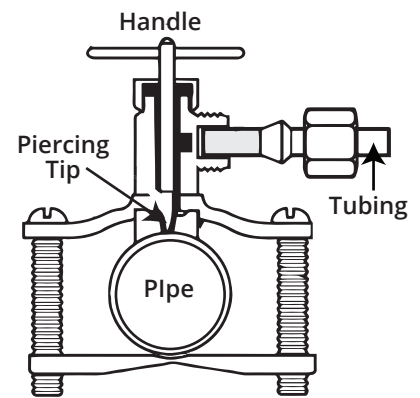

Fig 3.2
B. Turn off the water supply and make sure the pipe is clean where the valve will be attached according to **Fig 3.2**.
(5) Install tubing: